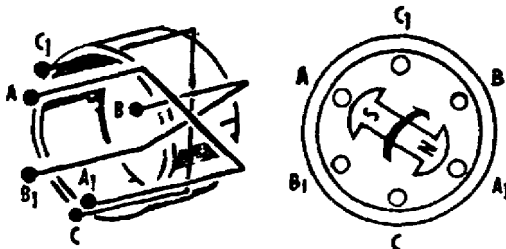

Figure 23. Three-phase operation.
a. The single loop of wire acting as a stator winding, and the bar magnet acting as the rotor, serve to illustrate how an AC voltage is produced in a basic generator. When two more separate loops of wire, spaced 120° apart, are added to our basic generator, two more separate voltages will be produced (fig 23).